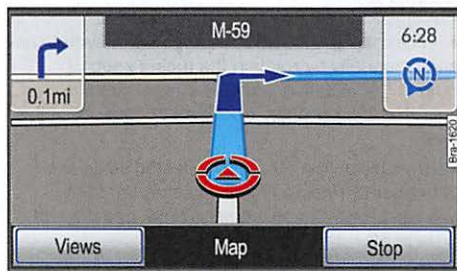

Fig. 65 Stopping route guidance.
- Press the **Stop** function button ⇒ fig. 65.